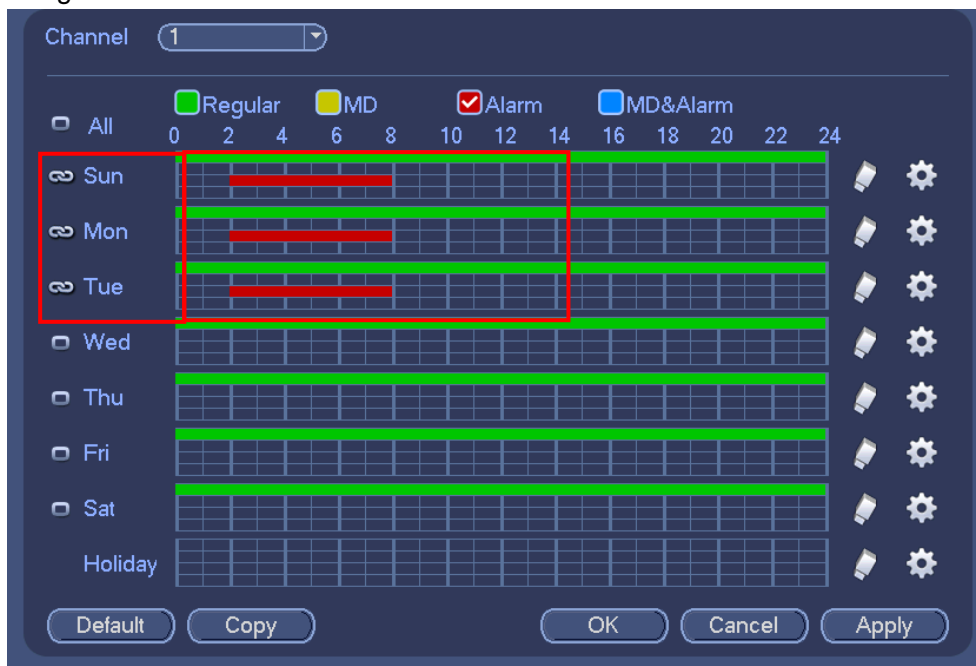

Figure 4-111
- ✧ Please draw manually to set record period. There are six periods in one day. See Figure 4-111.